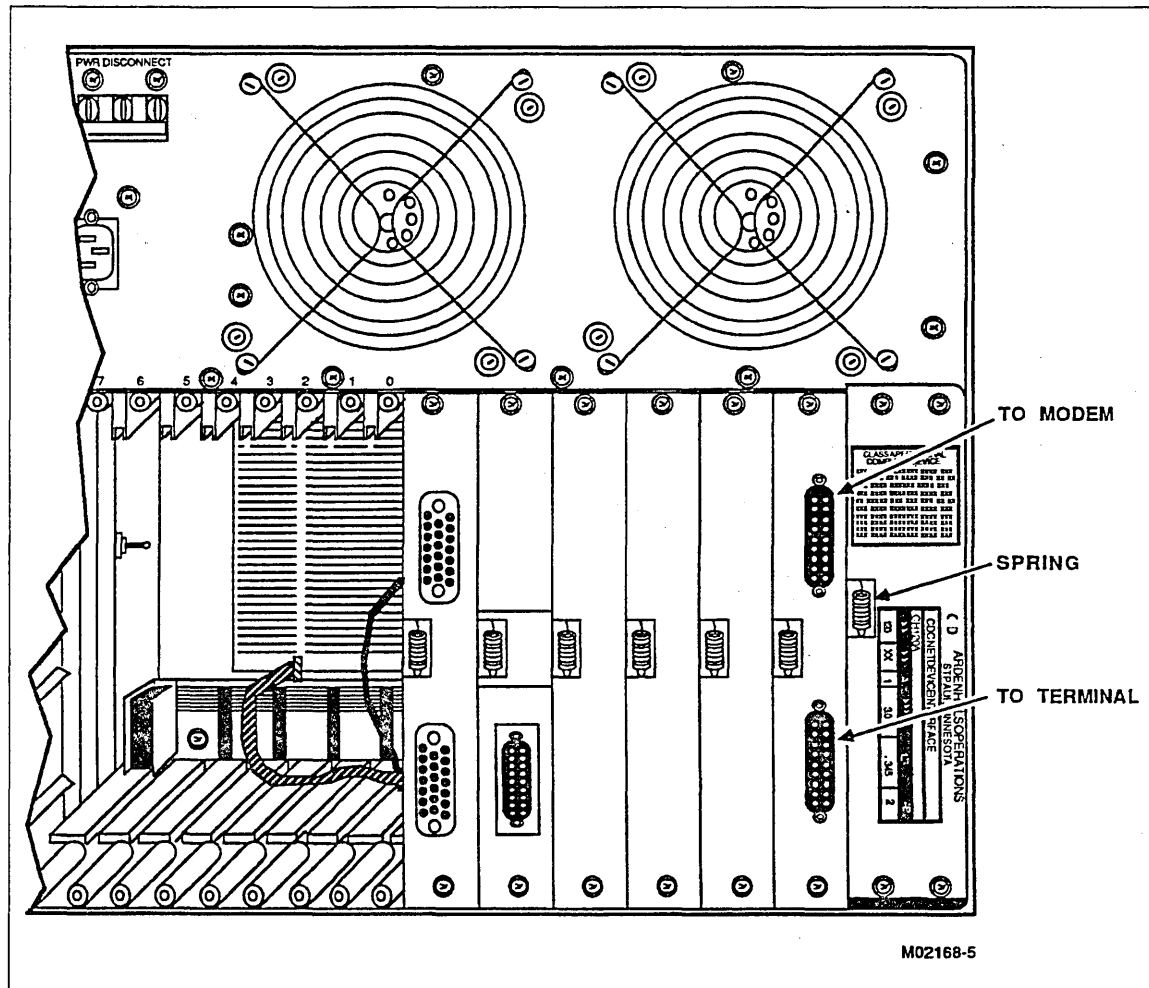

Figure 1-12. Installed MCO
6. Replace the double-width filler plate using the four screws removed in step 2. Figure 1-12 shows the MCO installed.